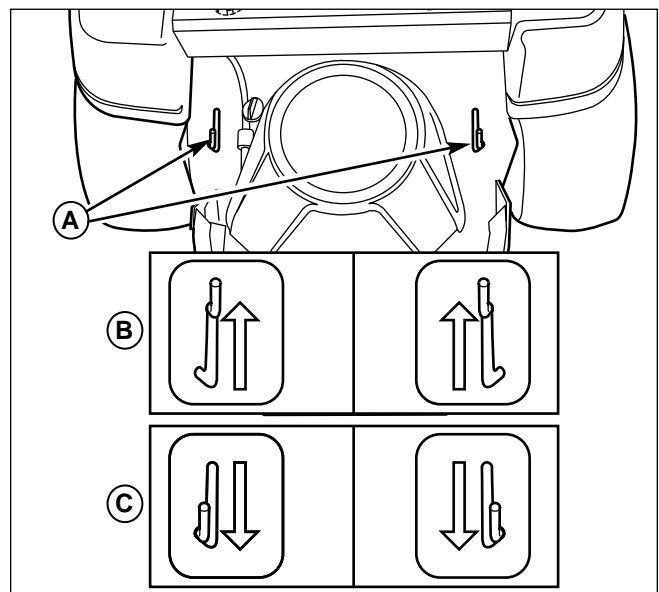

Figure 10. Transmission Release Levers
2. Locate the transmission release levers (A, Figure 10) by the rear wheels of the unit.
3. Pull both levers back and out so that they lock in the disengaged (free-wheel) position (C).